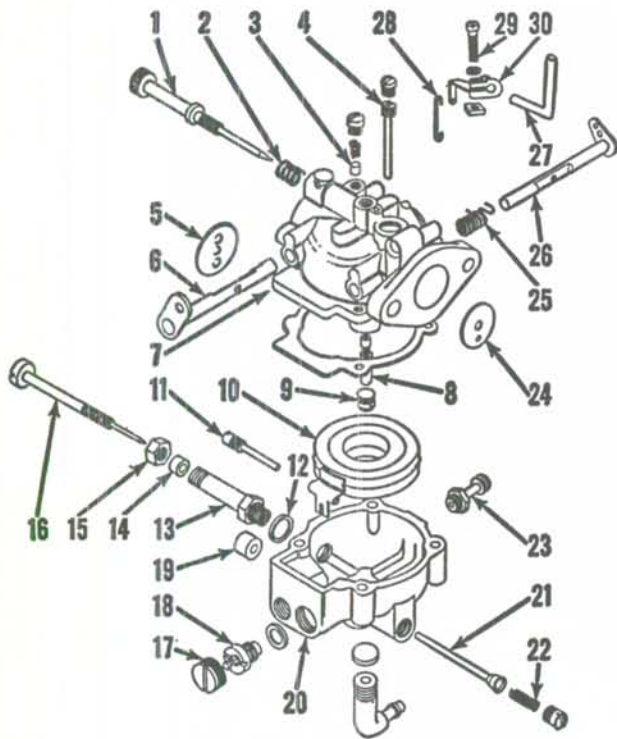
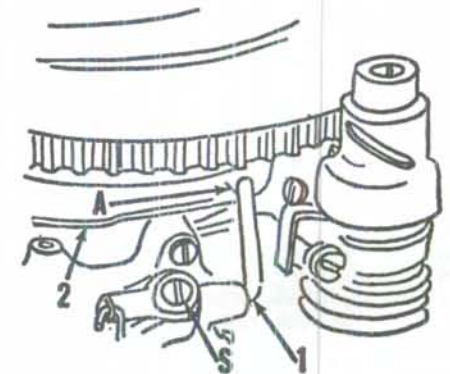

Fig. WB10 — Exploded view of Tillotson MD carburetor.
Fig. WB11 — Carburetor throttle linkage showing method of adjustment. Refer to text for details.
CARBURETOR. Tillotson, type MD or MT carburetors are used. Refer to Fig. WB10 or WB10A. Normal initial setting is one turn open from the closed position for both the high speed adjustment needle and the idle mixture adjustment needle. Carburetor must be readjusted under load, after motor is warm, for best high speed and low speed performance.
Type MD: Refer to Fig. WB10 for exploded view.
To synchronize the linkage on models with Type MD carburetor, refer to Fig. WB11. With the engine not running, loosen the clamping screw (S) in throttle control bellcrank. Move the speed control grip or lever until the scribe mark (A) on throttle cam (2) is aligned with cam follower (1). Move cam follower until it just contacts cam at the scribe mark; then tighten screw (S). Throttle link (28—Fig. WB10) should be hooked in attaching hole nearest the axis of throttle shaft (26).